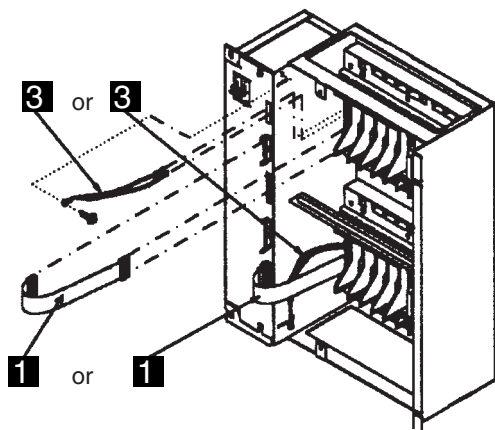
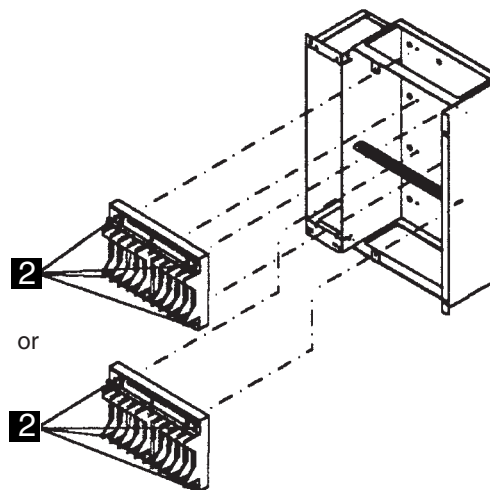

Figure 4-137. LIC Board Type 1 Enclosure Assembly
Figure 4-138. LIC Board Type 1 Assemblies
Refer to Figure 4-137 and Figure 4-138 and do the following:
2. Refer to Figure 4-138 on page 4-150.
3. Refer to Figure 4-137 on page 4-150.